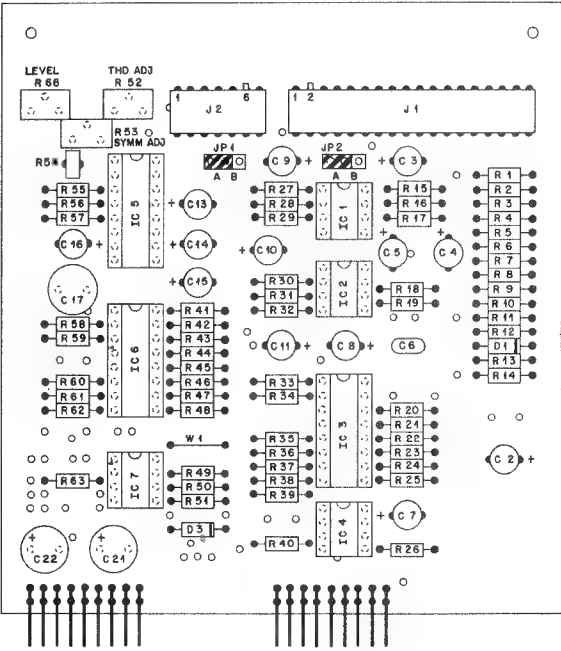

Fig. 4.10.1
- Connect the audio generator (1 kHz and line level according to the jumper configuration as shown in Fig. 4.10.1) to the corresponding line input.